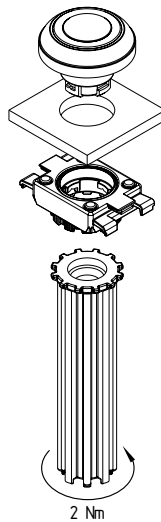

Fig. 2
1. Assembly of operating elements and flange by turning the RMW mounting tool to the right (see Fig. 2):